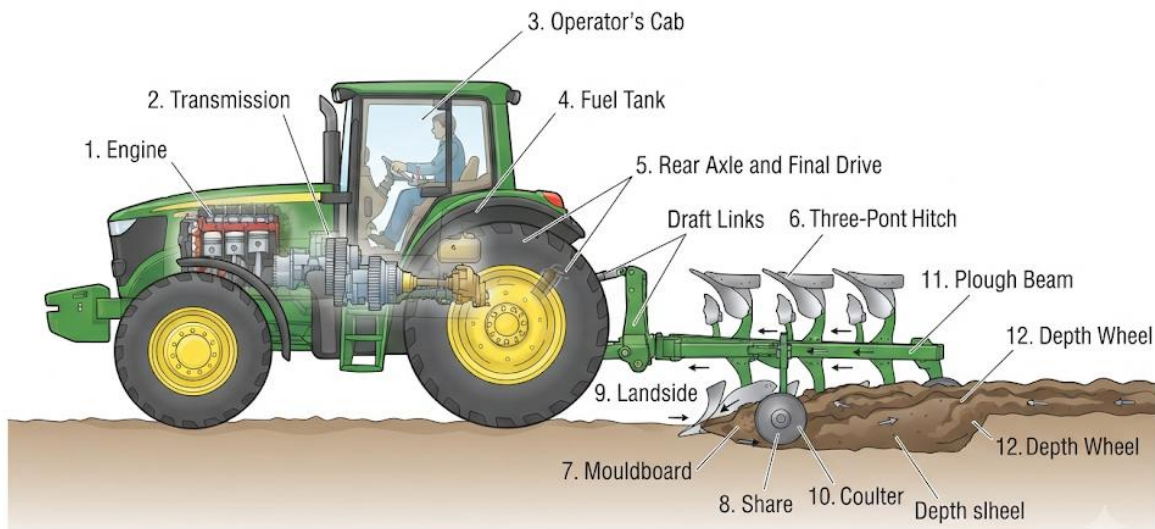

Figure 1.3 Tractor ploughing demonstration
Diagram showing tractor performing ploughing operation Caption: Figure 1.3 Tractor ploughing demonstration
- Figure 1.3 Tractor ploughing demonstration: “tractor ploughing demonstration diagram OER”